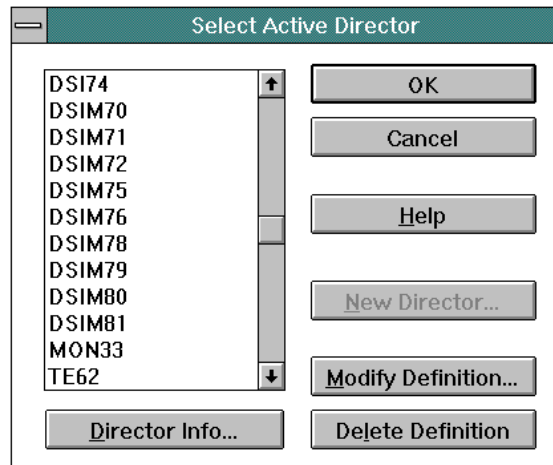

Figure 191. Select Active Director Dialog Box
- 2. Select the *Open Active Configuration Matrix* option from the *File* menu. The *Select Active Director* dialog box appears (Figure 191).